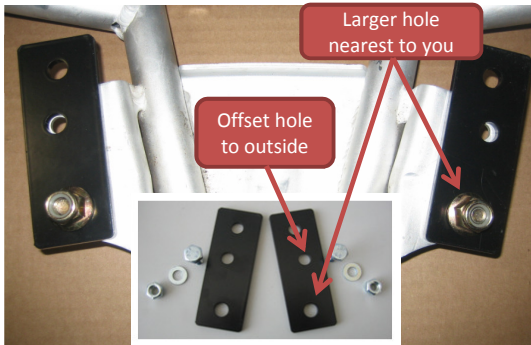
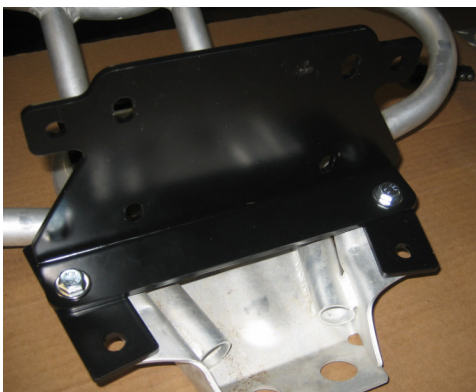

Figure 15
Figure 16
- Locate the two (2) flat brackets with three holes. Orient them as shown (Figure 15). Take note that the larger hole should be closest to you and the offset holes should be to the outside of the bumper.
- NOTE: In Figure 15, the factory hardware has been used to hold the two brackets to the bumper. These will later be removed.
- Locate the winch mount bracket (Figure 16) and attach it using the hardware sent by MotoAlliance (seen in smaller photo of Figure 15). Do not tighten these bolts at this time.
- Remove the factory hardware that was shown in Figure 15 and is no longer shown in Figure 16.